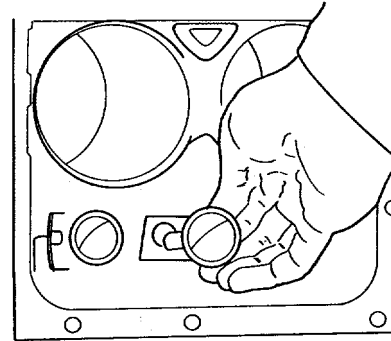

Figure 5-39. Tappet Removal.
- (10) Lift tappets (7) from their locations (see Figure 5-39) or remove the retaining clips if the engine is still positioned with the oil pan down.
- (11) Examine camshaft (8) and tappets (7) for signs of excessive wear, surface cracks, pitting, or other damage.